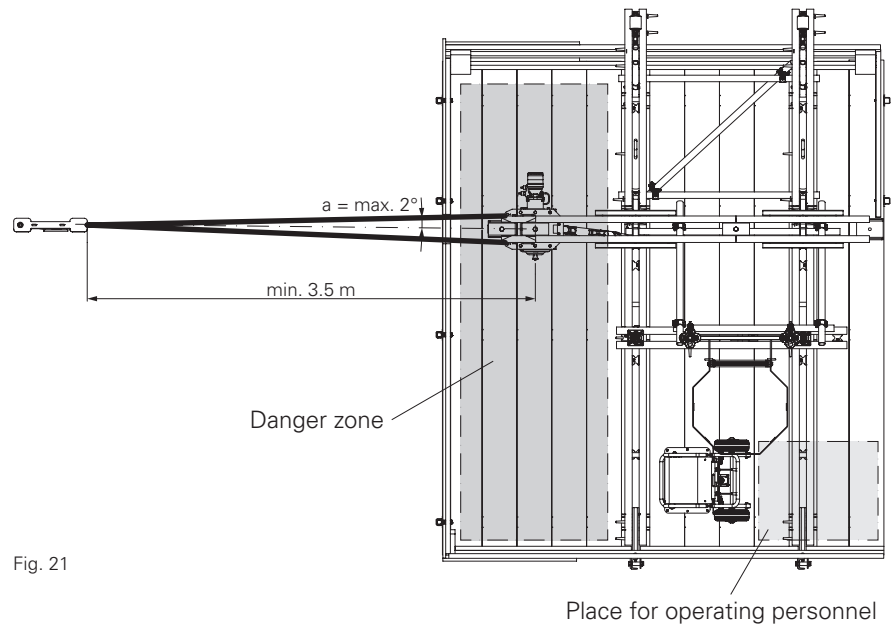

Fig. 21
⇒ During the relocation procedure, no one is allowed to be in the danger zone in case the cable breaks etc. (Fig. 21)
- When relocating within the bridge radius, observe the permissible diagonal pull "a" of $\pm 2^\circ$ to the tension axis. (Fig. 21)
- During the relocation procedure, only operating personnel are allowed to remain on the platform. (Fig. 21)